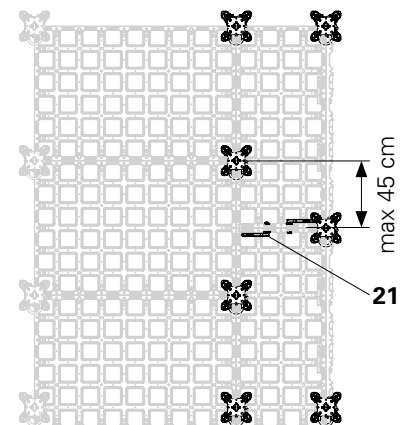

Fig. D3.05a
- both DP panels are connected at the shorter joint with 2 DUO couplers (**21**). (Fig. D3.05a)